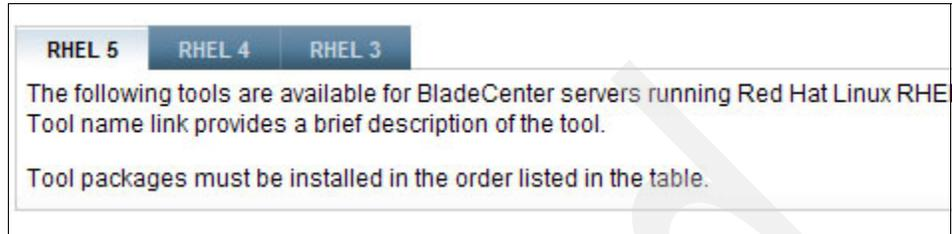

Figure F-3 OS level selection tabs example
- Click the tab (as shown in Figure F-3) that matches your Linux operating system (OS) level. The packages under each tab are unique to that Linux OS level.
3. Click the tab (as shown in Figure F-3 on page 469) that matches your Linux operating system (OS) level. The packages under each tab are unique to that Linux OS level.